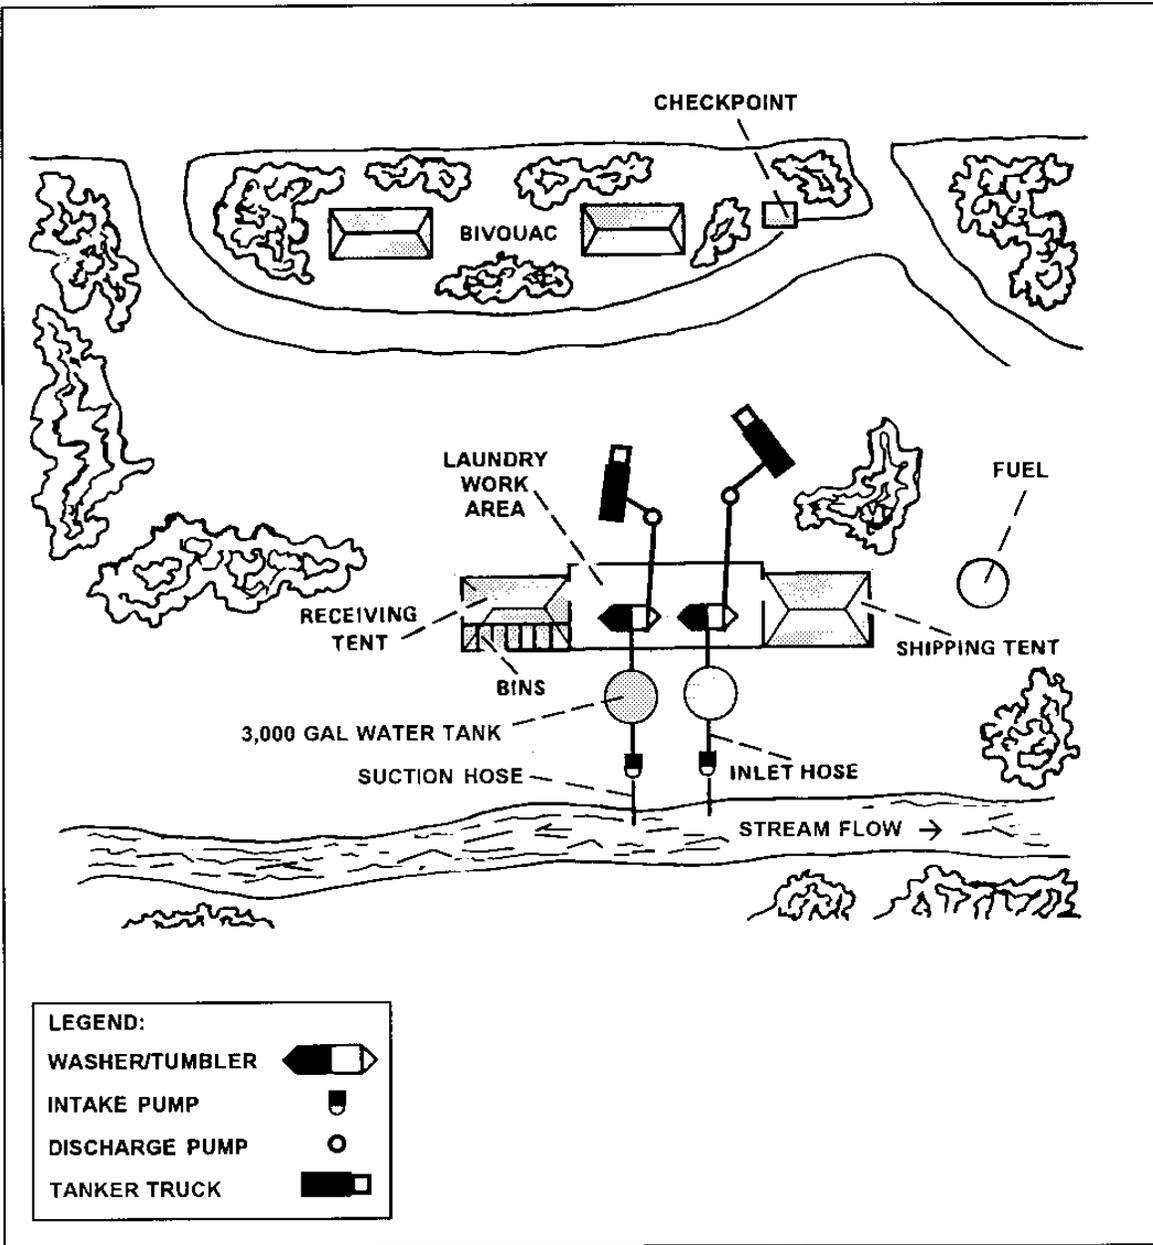

Figure 3-2. Overview of a suggested layout for a laundry operation
- *Layout planning.* It is sometimes necessary to have two or more SLCR sections/teams in the same place to provide the required support for a command or organization. Suggested layouts for a single laundry element and for two or more laundry elements, including operational equipment and set up, are shown in Figures 3-2, 3-3, 3-4, and 3-5 (pages 3-12 through 3-15). Depending upon METTC-TC and higher headquarters guidance, the shower and/or laundry elements for either TOE 42414L0 or 10414L0 may be utilized separate from each other. (The requirement, though, is to have the SLCR section/team to perform as a whole unit entity.) Note these planning consideration areas:
(NOTE: Figure 3-2 depicts laundry operations under TOE 42414L0.)